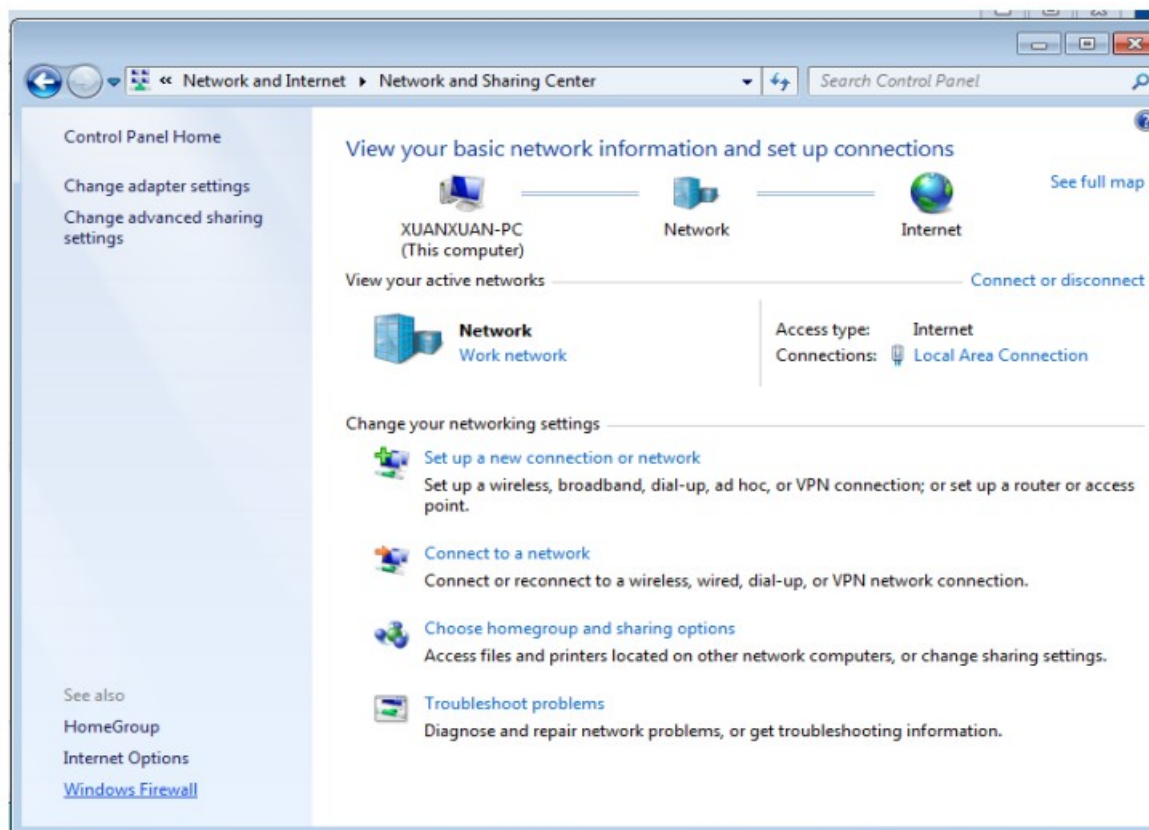
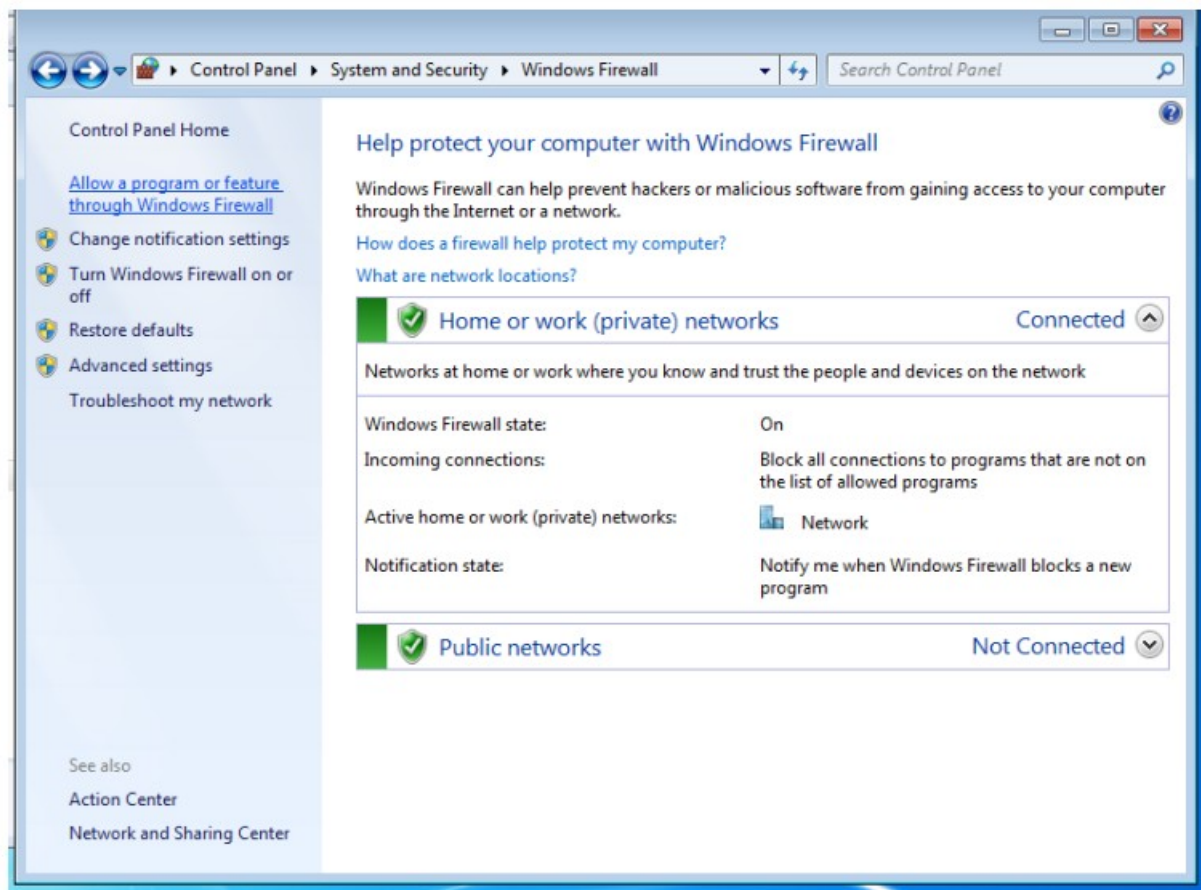

Fig.1.15 Network and Sharing Center
Fig.1.16 Windows Firewall
(3) Click “Windows Firewall” in Fig.1.15, the interface will pop up” (see Fig.1.16)
(4) Click “Allow a program or feature through Windows Firewall” (see Fig.1.16).